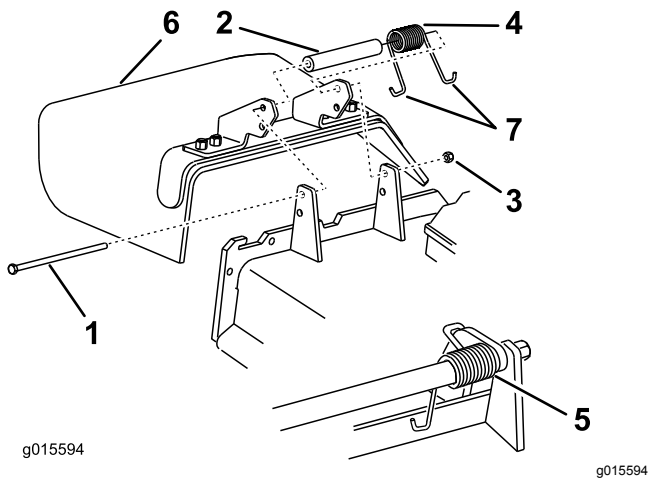

Figure 107
1. Remove the locknut, bolt, spring, and spacer holding the deflector to the pivot brackets (Figure 107). Remove the damaged or worn grass deflector.
Note: Make sure one J-end of the spring is installed behind the deck edge before installing the bolt as shown in Figure 107.
- Install the bolt and the nut. Place one J-hook end of the spring around the grass deflector (Figure 107).